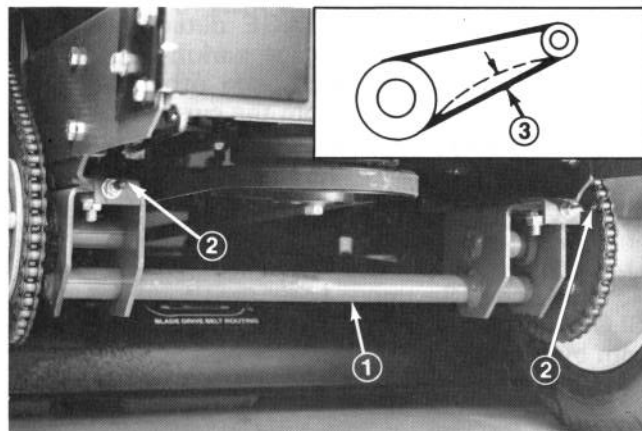

Figure 24
1. Check deflection of drive chain by pressing up on chain with approximately 10 lbs force (moderate pressure) at mid span. There should be 1/2" deflection (Fig. 24). If deflection is not as specified an adjustment is required.